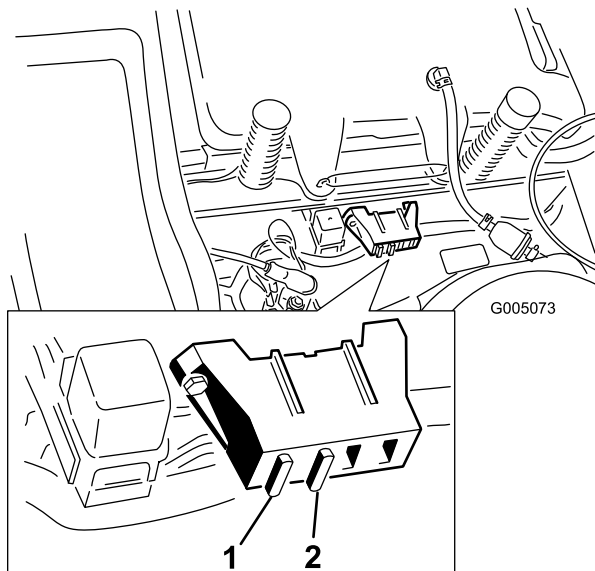

Figure 32
1. Raise the seat to gain access to the fuse holder (Figure 32).
2. To replace a fuse, pull out on the fuse to remove it (Figure 32).